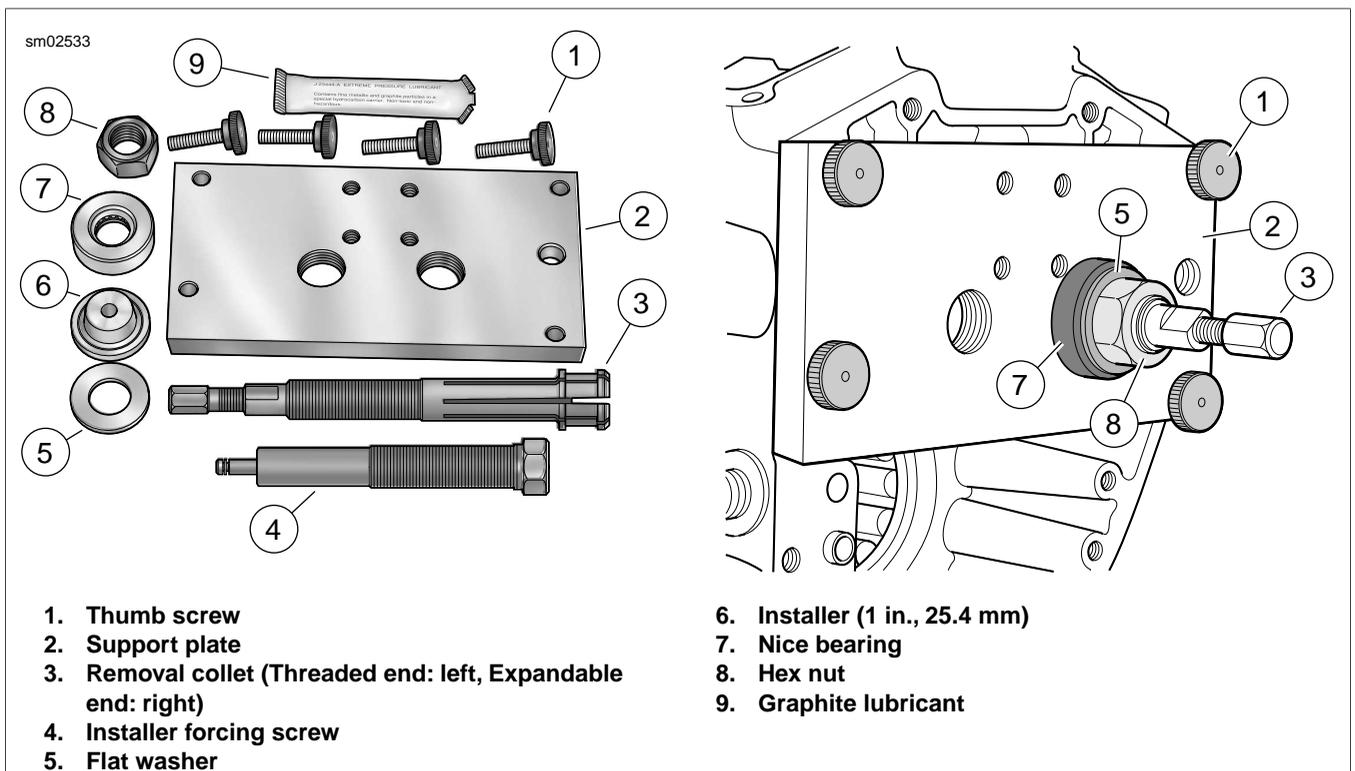
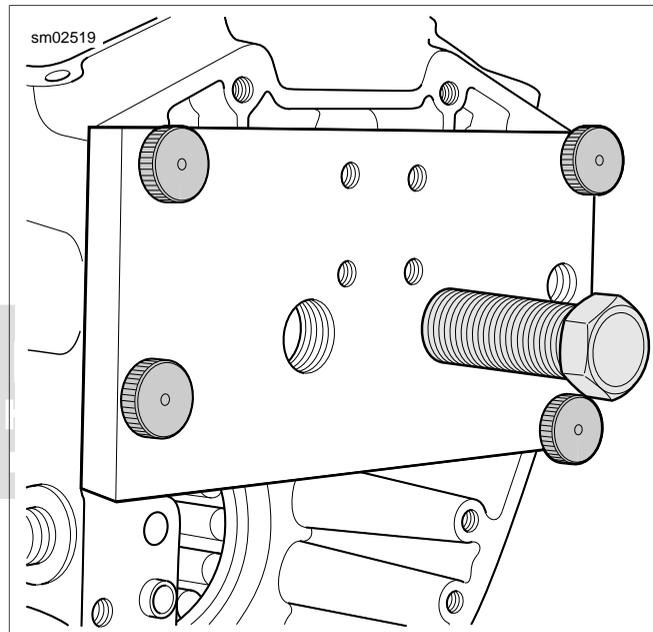

Figure 3-115. Camshaft Needle Bearing Remover/Installer (Part No. HD-42325-A)
Figure 3-118. Installer Forcing Screw Installation
2. See Figure 3-115. Remove four thumb screws (1) from threaded holes in support plate (2), if installed.
3. Sparingly apply graphite lubricant (9) to threads of collet (3) to prolong service life and ensure smooth operation.
7. Center expandable end of collet in bearing bore and slide Nice bearing (7) and flat washer (5) on threaded end. Start hex nut (8) on threaded end.
3. See Figure 3-115. Sparingly apply graphite lubricant (9) to threads of installer forcing screw (4) to prolong service life and ensure smooth operation.
4. Thread installer forcing screw into stamped side of support plate (2) until threads begin to emerge from opposite side.
5. Place installer (6) at end of installer forcing screw.
7. See Figure 3-118. Aligning two large holes in support plate with needle bearing bores, hang right side of plate on ring dowel in crankcase flange.